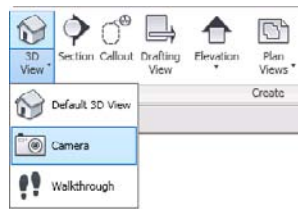

Figure 9.1
5. On the View tab's Create panel, click the 3D View drop-down, and select Camera (Figure 9.1).